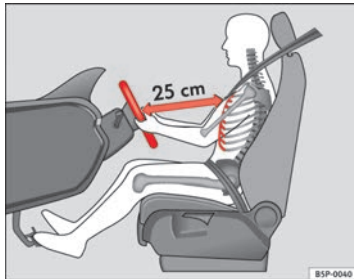

Fig. 1 The correct distance between driver and steering wheel
- Adjust the steering wheel so that there is a distance of at least 25 cm between the steering wheel and the centre of your chest ⇒ Fig. 1.
- Adjust the driver seat so that there is at least 25 cm distance between the centre of the chest and the centre of the steering wheel ⇒ Fig. 1. If you are sitting closer than 25 cm, the airbag system cannot protect you properly.